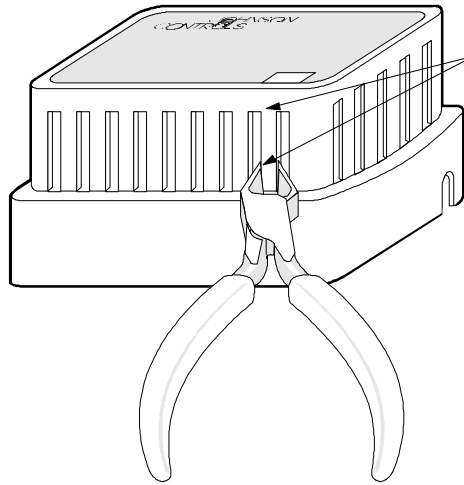

Figure 3: Removal of Breakout Feature for External Setpoint Adjustment
- Viewing the cover from the outside and using a diagonal cutter, cut through the upper and lower portion of the first rib located beneath the window, remove rib and discard (refer to Figure 3). It is recommended that a true flush blade type tool be used to achieve a clean cut.